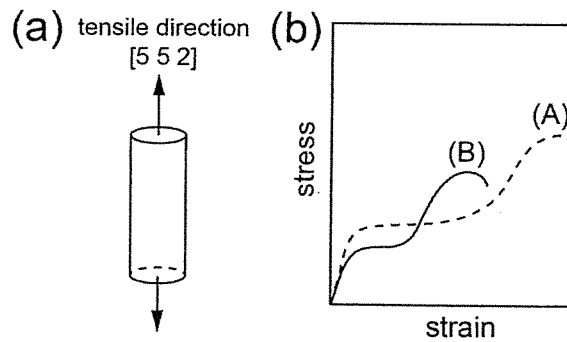

Figure 2 (a) The configuration of tensile experiment and (b) the stress-strain curves of two samples with different size.
4. You executed tensile tests on single aluminum crystals, which is the face-centered cubic crystal (FCC). The experimental configuration of tensile test is shown in **Figure 2(a)**, and the tensile direction is $[5\ 5\ 2]$ for all samples.
strain curves were then obtained as shown in Figure 2(b). Please identify the sample size for each curve and provide the reasons. (3%)